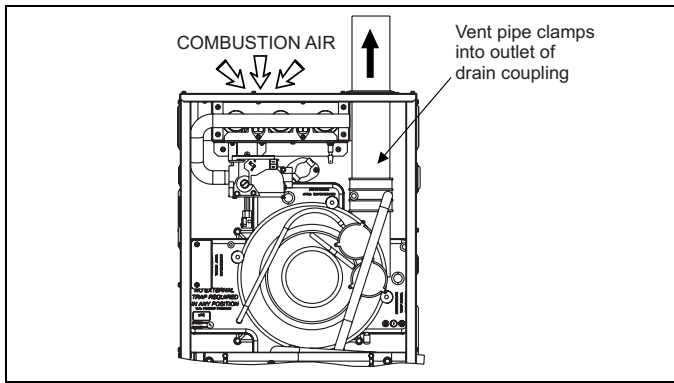

Figure 38: Combustion airflow path through the furnace casing
2. **Ambient combustion air:** Combustion air is supplied from the area surrounding the furnace through openings in the furnace casing. The combustion air and the vent pipes are not terminated in the same atmospheric zone. See Figure 38 for vent terminations. See "Ambient combustion air supply" for proper installation. See Figures 38 and 39.